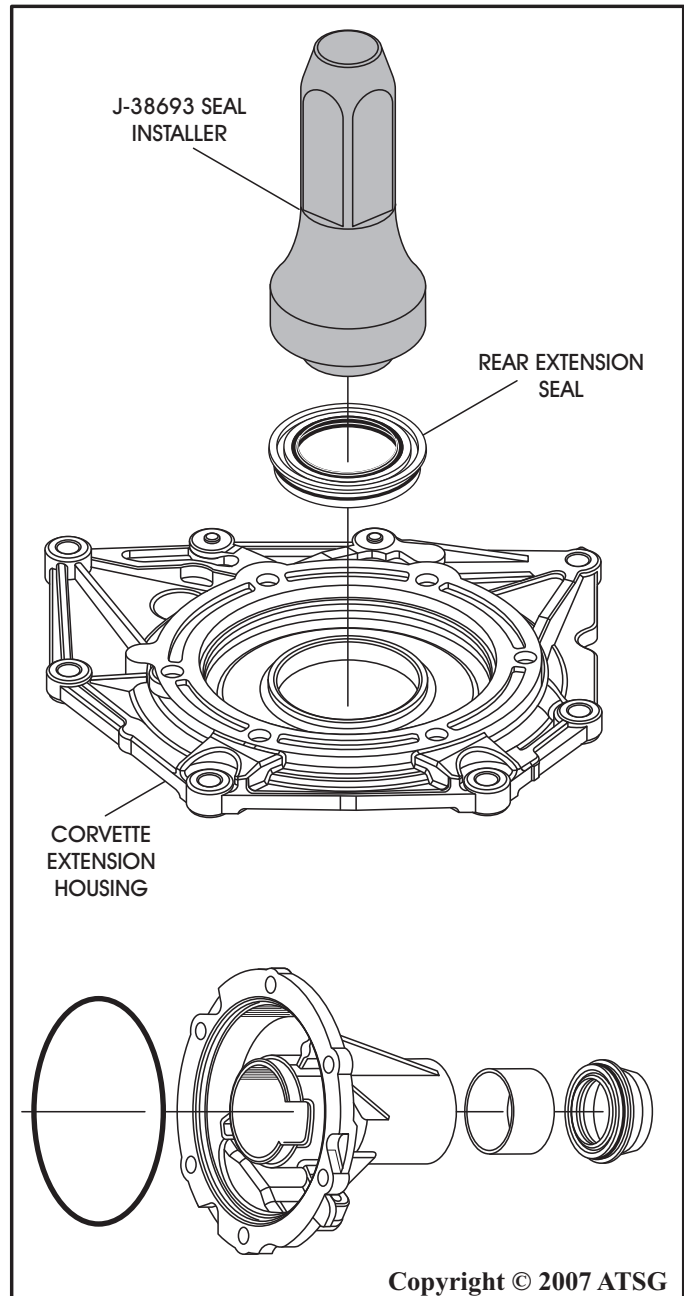

Figure 152
1. Install a new metal clad seal into the extension housing, as shown in Figure 152, using proper seal driver.
Note: Corvette version is illustrated, 2WD version is also shown in Figure 152.